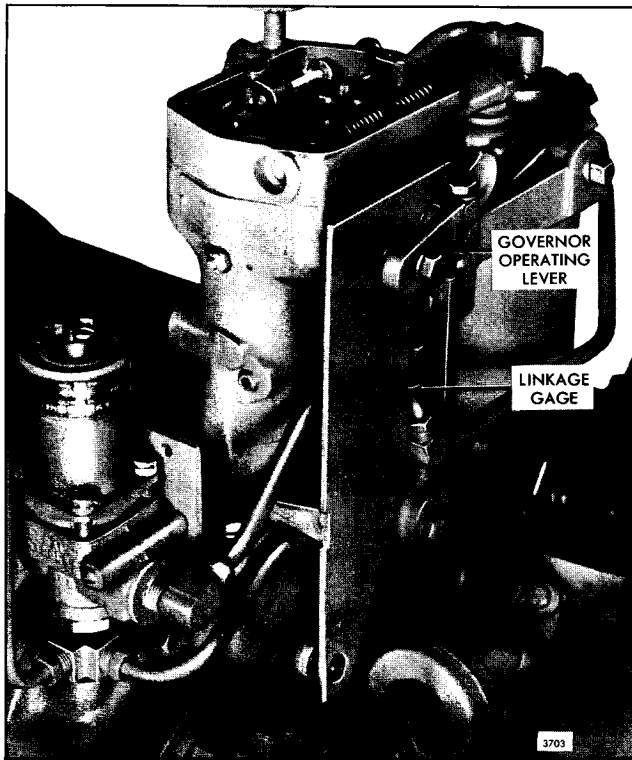

Fig. 4 - Positioning Governor Operating Lever
12. Replace the governor operating lever on the serrated shaft so that the bolt hole is lined up within the proper lines on the gage (Fig. 4). The type of governor (SGX or PSG) will determine the proper position of the lever.